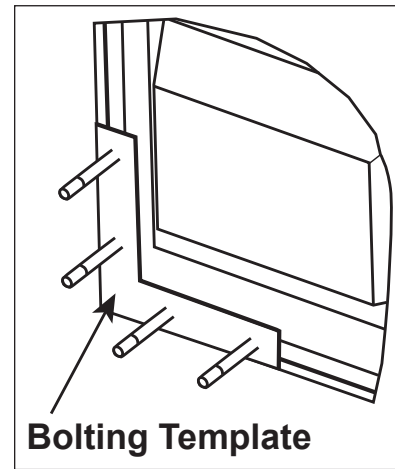

Figure 24: Webcam Bolting Template
5. Place the bolting template over the bolts in the channel. The bolting template is important as it makes mounting the arm assembly easier. Refer to **Figure 24**.